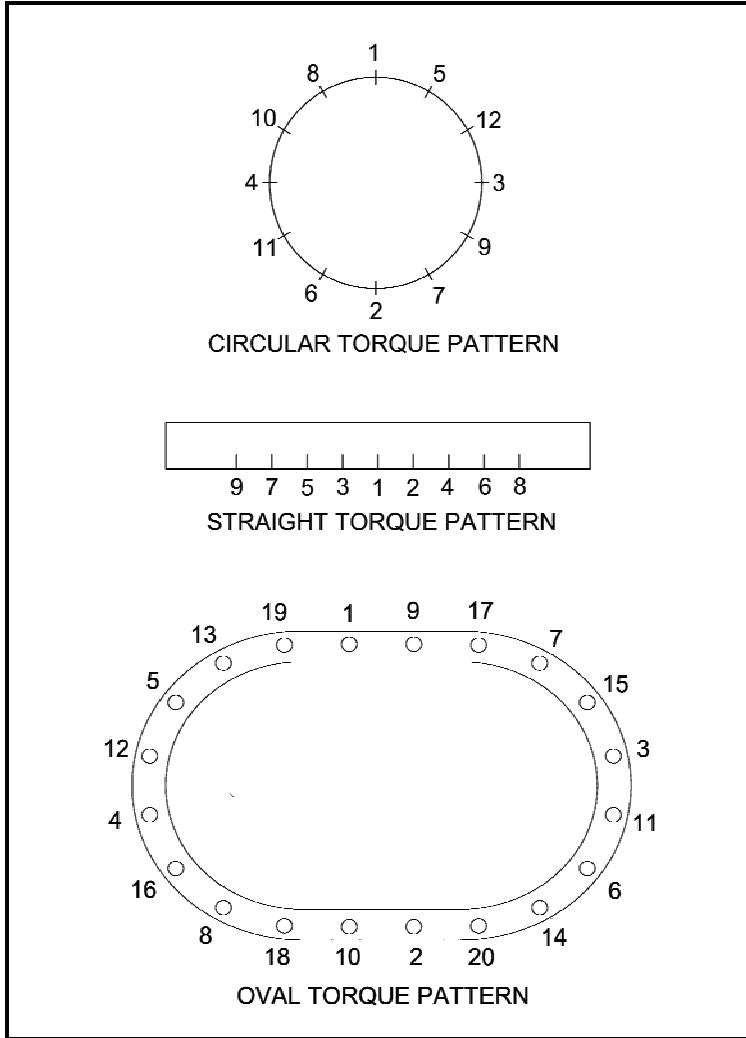

Figure 1. Torque Patterns
- c. Use the appropriate circular, straight, or oval pattern when tightening as shown in Figure 1.